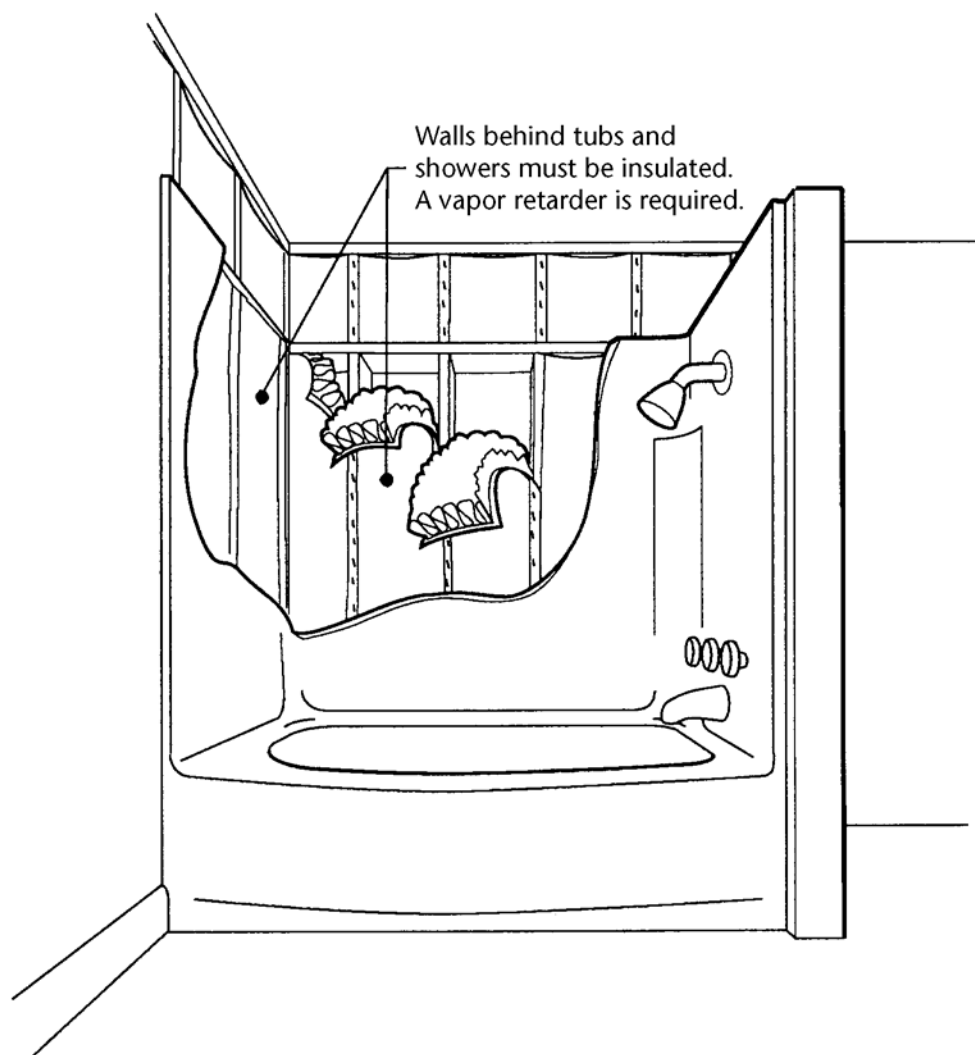

Figure 4-1
- Behind shower or bathtub enclosures (see Figure 4-1).